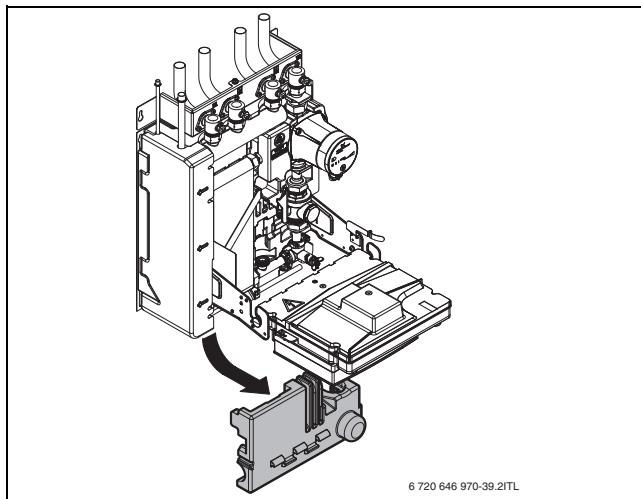

Fig. 56 Removing the bottom insulation plate
- Remove the lower insulation (fig 56, Page 50).